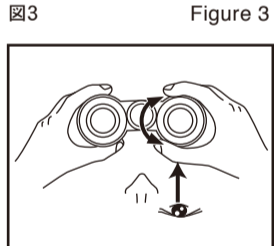

Figure 4
2. 次に、右目で右側の接眼レンズをのぞきながら、「視度調整リング」(のぞいた際の右目側にのみあります)を回します。同じ目標物に正しくピントが合ったところまで回します。(図4)
2. Then, while looking through the right eyepiece with the right eye, focus on the same object by turning the diopter ring. It is advisable to remember the scale of the diopter ring so that you can set the diopter ring immediately without going through the above procedure every time you use the binoculars. (Ref. Figure 4)